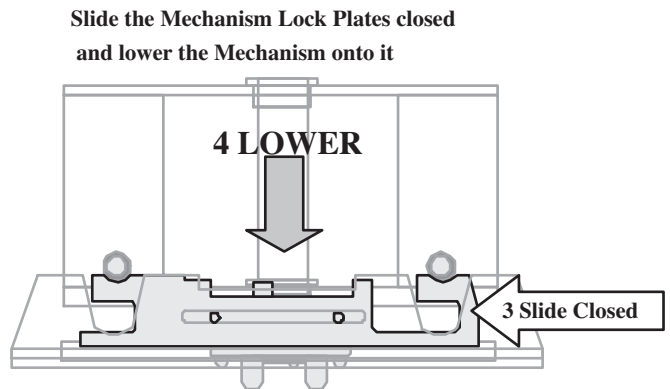

Figure 30
- Slide the tabs back to closed position and gently set the mechanism on it as shown in **Figure 30**.